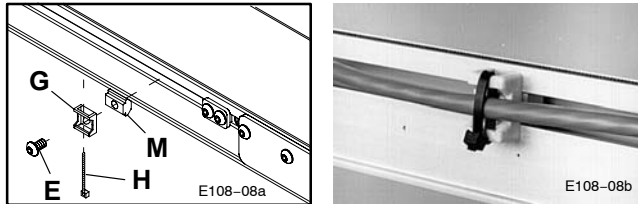

Figure 8: Zip Tie Mounting Detail
- d. To route Cable over a previously mounted component or to anchor Cable, use Zip Tie Mounts (G) and Single Drop-in T-bars (M), (Figure 8).